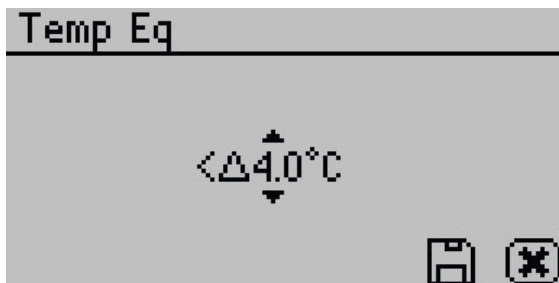

Figure 39 Temp Eq screen
- **Temp Eq.** Select to set the acceptable temperature difference between the sample block and the sample before starting a water activity measurement (Figure 39).